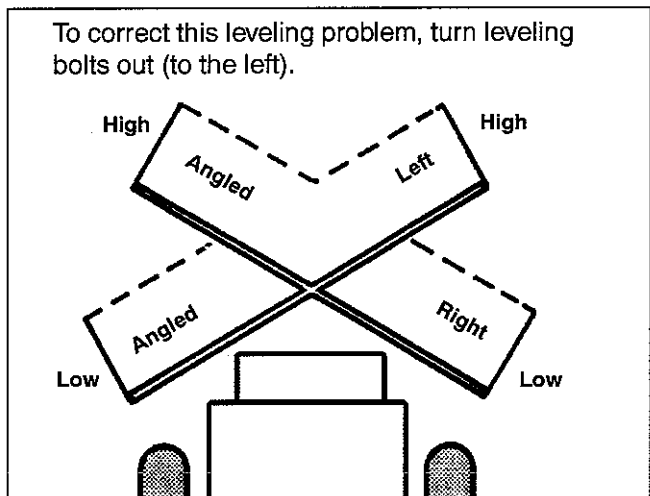

figure 19
- If the measurements are not equal, refer to figures 19 and 20 for adjustments.